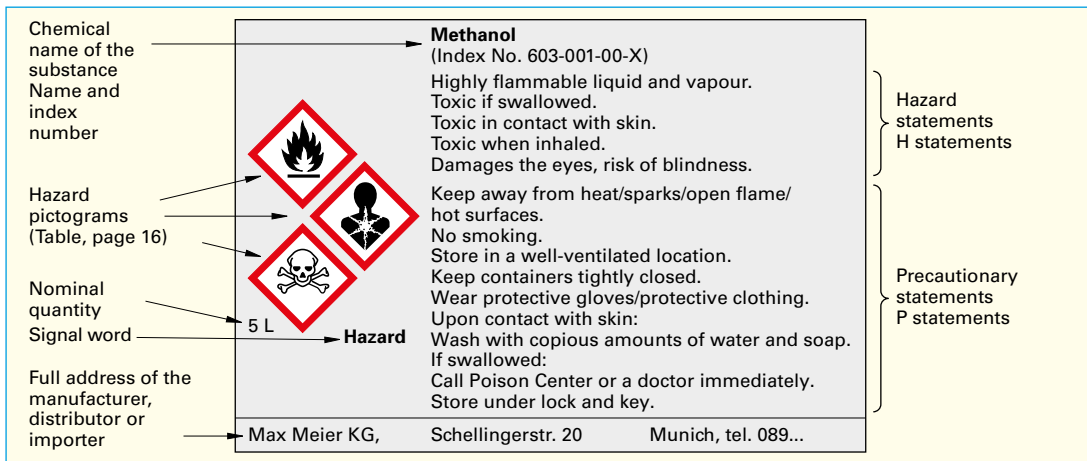

Figure 1: Example of the marking of a dangerous substance
- **Hazard statements**, (H statements) describe the nature and, if necessary, the severity of the hazard arising from hazardous substances or mixtures (**Figure 1, page 17**).
- **Precautionary statements**, (P-statements) describe the recommended actions to limit or avoid the damaging effects resulting from exposure to a hazardous substance or mixture (**Figure 1, page 17**).
A substance that has been classified and packaged as dangerous has to bear an identification label (Figure 1) with the following elements.